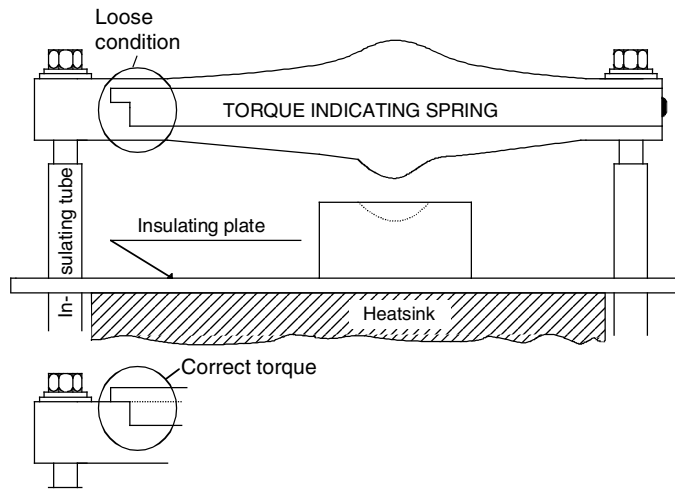

Figure 7-2 Aluminium spring with welded indicating spring
- Loosen the mounting clamp (see *Figure 7-2*) at the top of the thyristor stack.
- Tighten each nut in turn, half a turn at a time with the help of a ring spanner until the indicating spring clicks into position “correct torque” (see Figure 7-2). Do not tighten the screws any further.